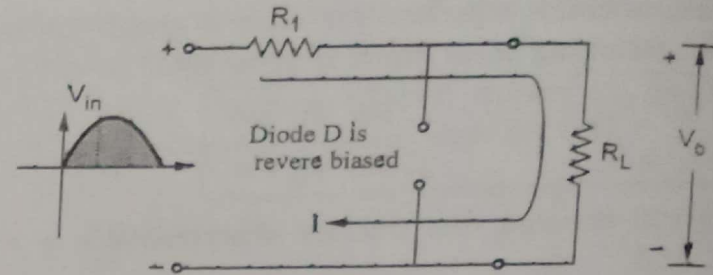

Fig. Q.44.2 Operation during positive half cycle
- When V_{in} is positive then the diode is reversed biased and acts as an open circuit. The circuit is shown in the Fig. Q.44.2.